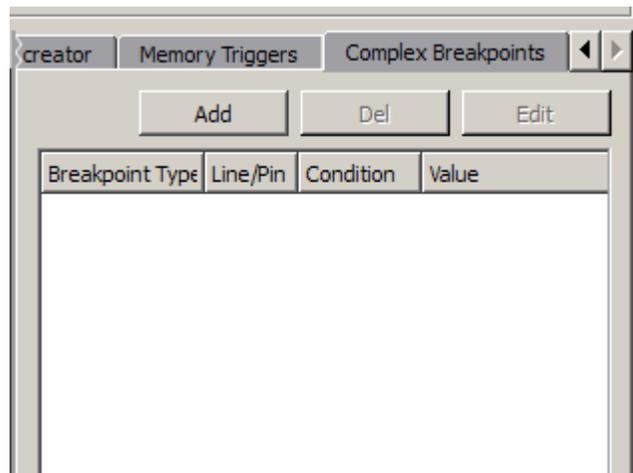

Figure 30. Complex Breakpoints Tab
5. Select the "Complex Breakpoints" tab in the top right pane of the HET IDE (see Figure 30).